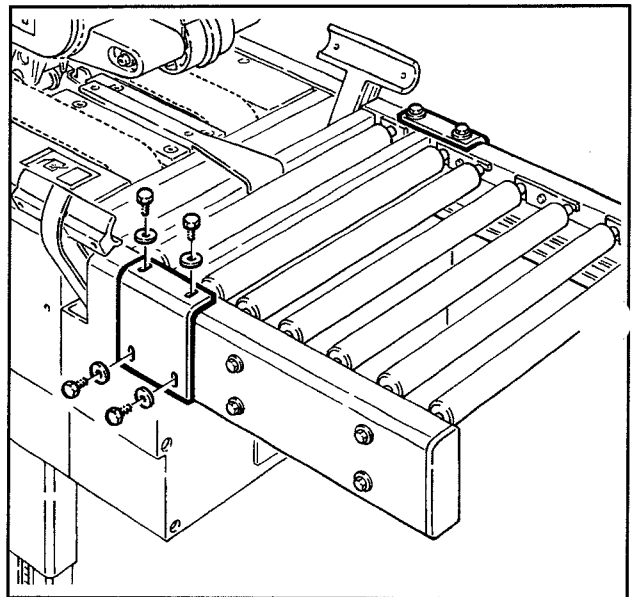

Figure 2-5 - Cover Plates
6. Refer to Figure 2-5. Set the cover plates over the joint between the conveyor and the frame on each side and secure them with four M8 x 15 screws and M8 washers.